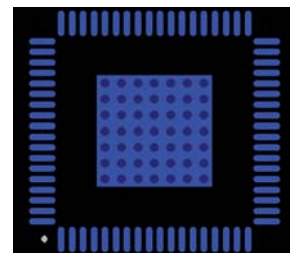

Figure 88. Exposed Pad Layout Example—Top View
- Place vias such that all layers of copper are connected, allowing for efficient heat and energy conductivity. For an example, see Figure 88, which shows 49 vias arranged in a 7 $\times$ 7 grid in the pad area.